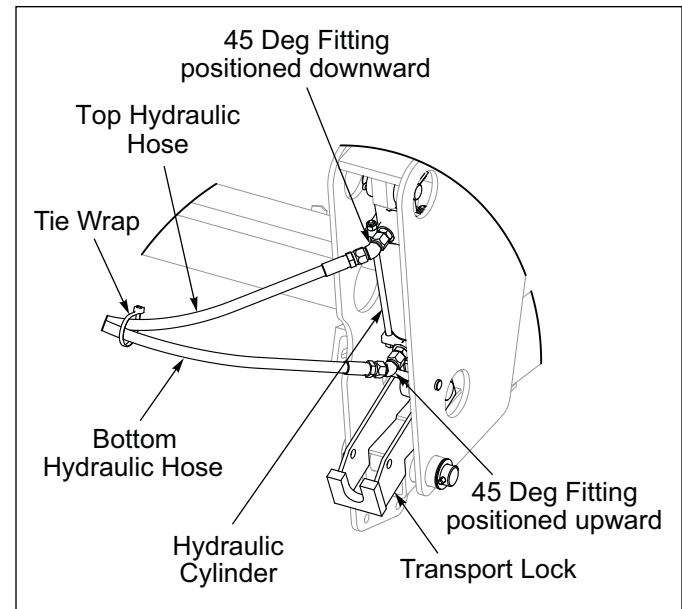

Figure 2-10: Cylinder Fittings Positioning
1. Restrictors installed in Cylinder Ports, connect 45 Degree Fitting so they are free to swivel. Connect top Hydraulic Hose to the Cylinder Base and bottom Hydraulic Hose to the Cylinder Rod End. Position the Hydraulic Hoses so that the Cylinder Base End points downward and the Cylinder Rod End points upward. Merge Hydraulic Hoses together and Tie Wrap them together about 12 inches from the Hose End. See Figure 2-10. Be sure that the Hoses cannot sag and make contact with the Front Roller Wheels.